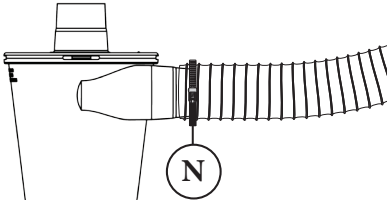
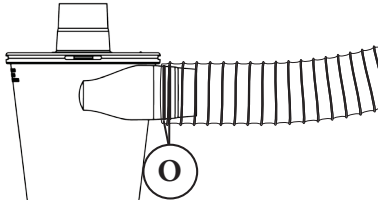

FIG. 9b
FIG. 9c
*Note: If your vacuum hose is not tight on the inlet or it keeps pulling off, use the Clamp Band (N) and/or the two O-Rings (O) [FIG. 9b] [FIG. 9c].*